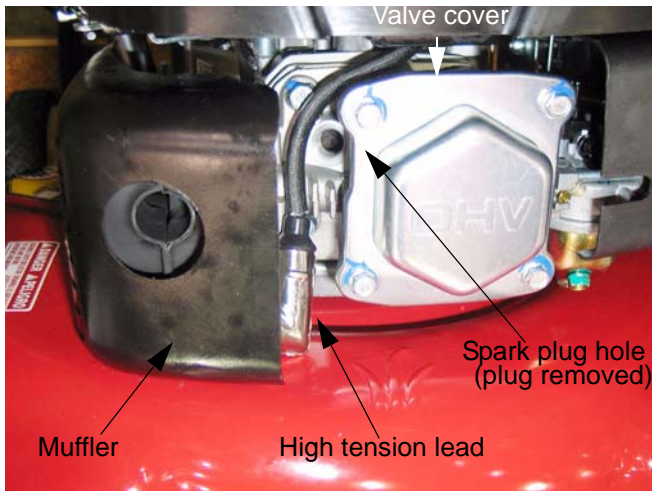

Figure 3.1
- 2b. Disconnect the high-tension lead from the spark plug and ground it well away from the spark plug hole. See Figure 3.1.